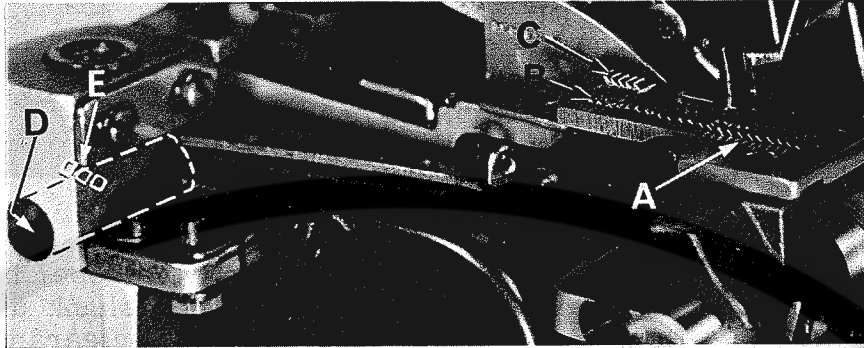

Fig. 12
Set all three feed dogs (A, B, C, Fig. 12) so the top surfaces of teeth all lay in the same plane. This can be checked by sighting across teeth with a straight edge. Now assemble throat plate. Feed dogs should now be leveled with throat plate surface by rotating feed tilting adjusting pin (D). This pin raises or lowers the back end of both feed bars at the same time. The feed dogs should be set level at the time teeth first appear above the throat plate. Screw (E) locks the feed tilting adjusting pin (D) in place.